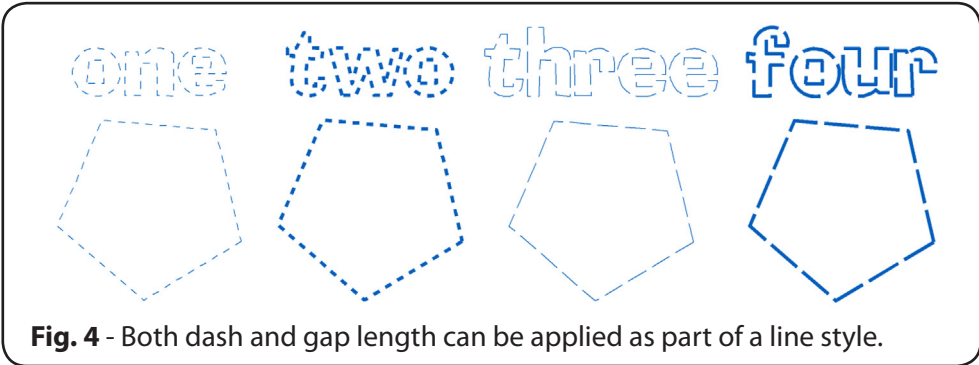

Fig. 4 - Both dash and gap length can be applied as part of a line style.
- **Dotted Line for Strokes** - Create dashed (and dotted) lines that have a specific dash length and space between dashes (Fig. 4).